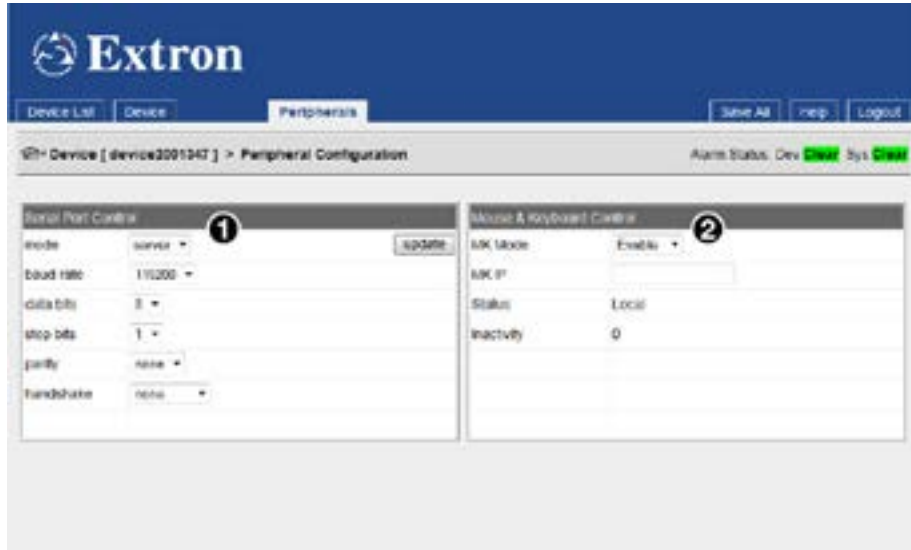

Figure 26. Peripherals Tab
Select a serial port mode (see figure 26, 1, on the previous page):
VNM 250 products have the capability to forward mouse and keyboard information from a display device to a source device (see figure 26, 2 on page 42). This allows a source (PC) to be controlled remotely from the display location.